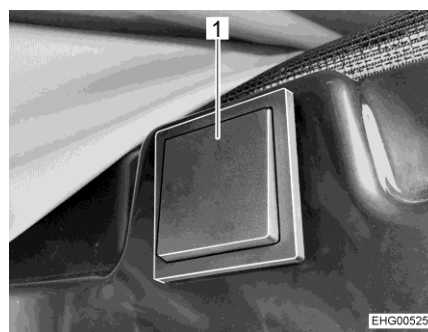

Fig. 53 Push button for electrical release
The push button for the electrical release (Fig. 53) is located on the right-hand side in the area above the sliding door.
- Press and hold the push button (Fig. 53,1) for least 2 seconds.